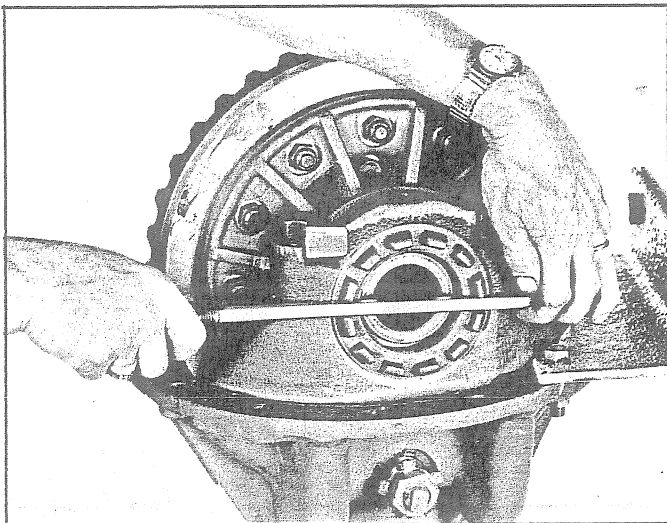

Fig. 67 - Adjusting Bearing Preload and/or Backlash
19. Tighten bearing adjusting nuts, as shown in Fig. 67, to adjust bearing preload to zero end play. (All bearing rollers should rotate as ring gear is rotated, but it should not be possible to move the rollers sideways in their cage.)